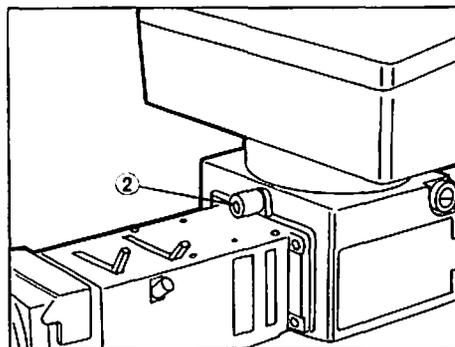
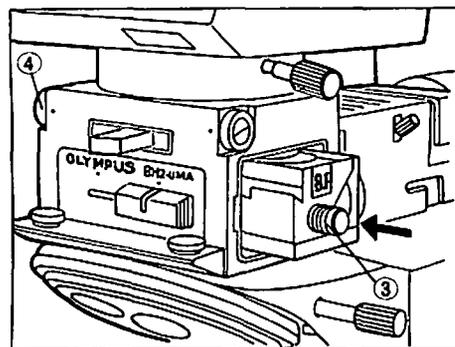

Fig. 21
Fig. 22
2. Remove the auxiliary mounting knob ② provided with the universal illuminator shown in Fig. 21 and attach it to the brightfield half-mirror unit (BH2-UBF). Looking at Fig. 22, hold the auxiliary knob ③ and carefully insert the brightfield half-mirror unit into the half-mirror unit compartment until a click is heard.
5. Set the half-mirror unit indicator dial ④, located opposite the mounted half-mirror unit, to the "B.F." or "D.F." position.